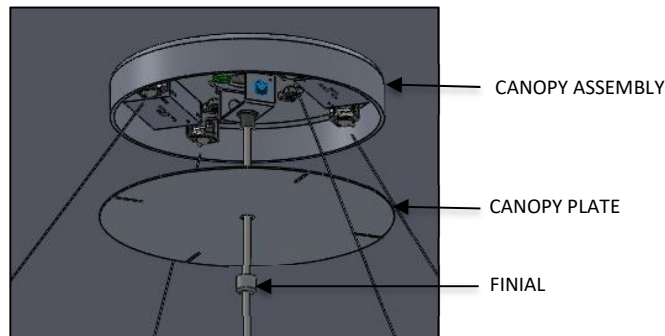

FIG. 17 - FINIAL INSTALLATION
7. Raise CANOPY PLATE and secure to ceiling by threading the FINIAL until fully seated as shown in FIG. 17.